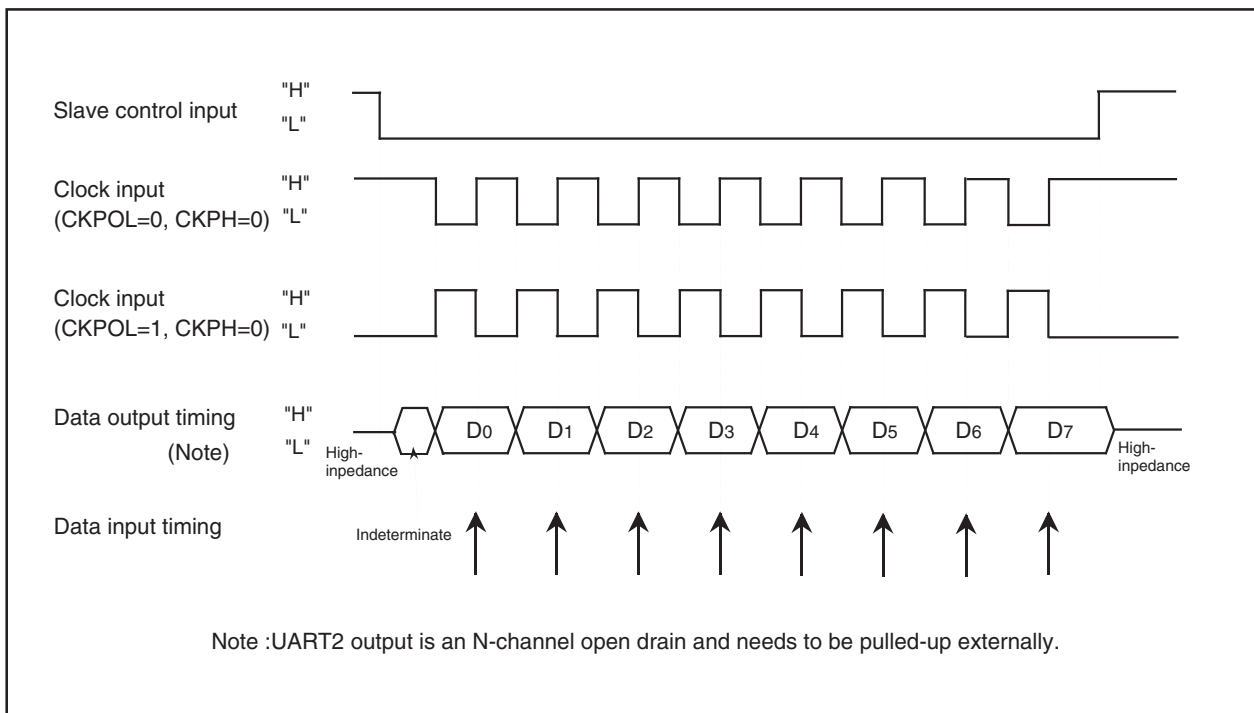

Figure 1.15.34. The transmission and reception timing (CKPH=0) in slave mode (external clock)
- Figure 1.15.34 shows the timing when bit 1 of address 0375₁₆)="0"